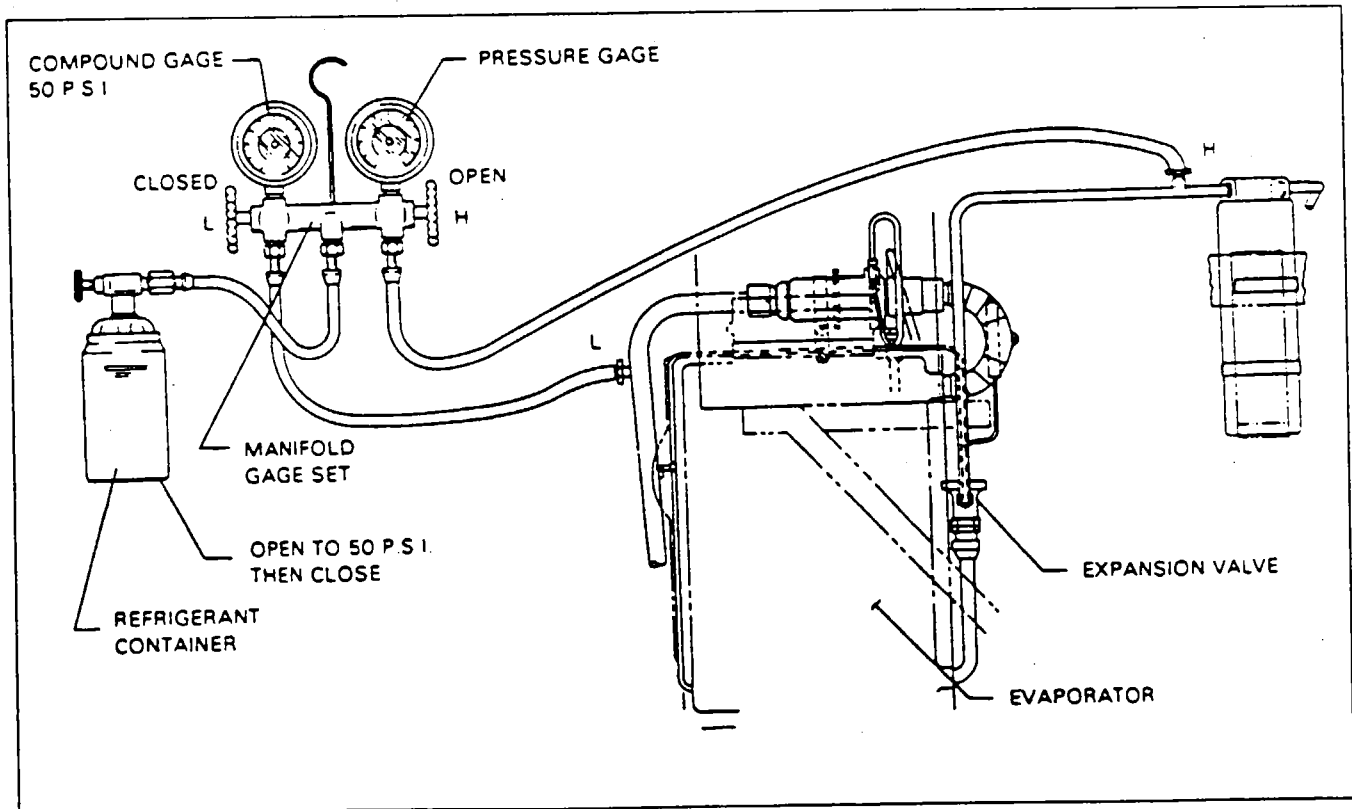

Figure 21-23. Leak Test Hookup
1. Connect the manifold gauge set into the system and determine if there is any refrigerant in the system. A minimum of 50 psi refrigerant pressure in the system is needed for leak detection. (Refer to Figure 21-23.)